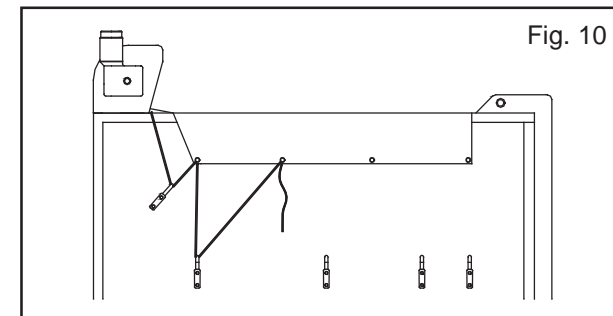

Fig. 10
2. Position 2nd hook straight down from 1st grommet. This hook should be reached from ground (Fig.10).